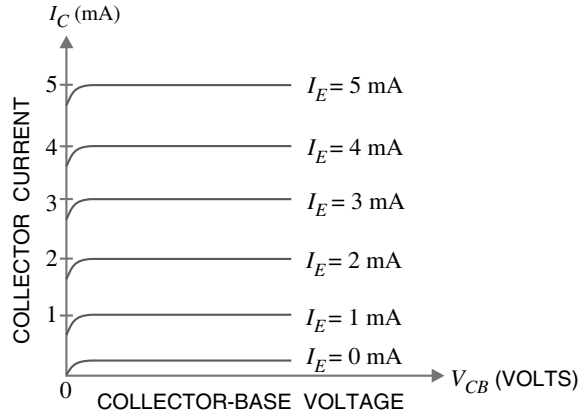

Fig. 6.16
2. Output characteristic. It is the curve between collector current I_C and collector-base voltage V_{CB} at *constant emitter current I_E . Generally, collector current is taken along y-axis and collector-base voltage along x-axis. Fig. 6.16 shows the output characteristics of a typical transistor in CB arrangement.